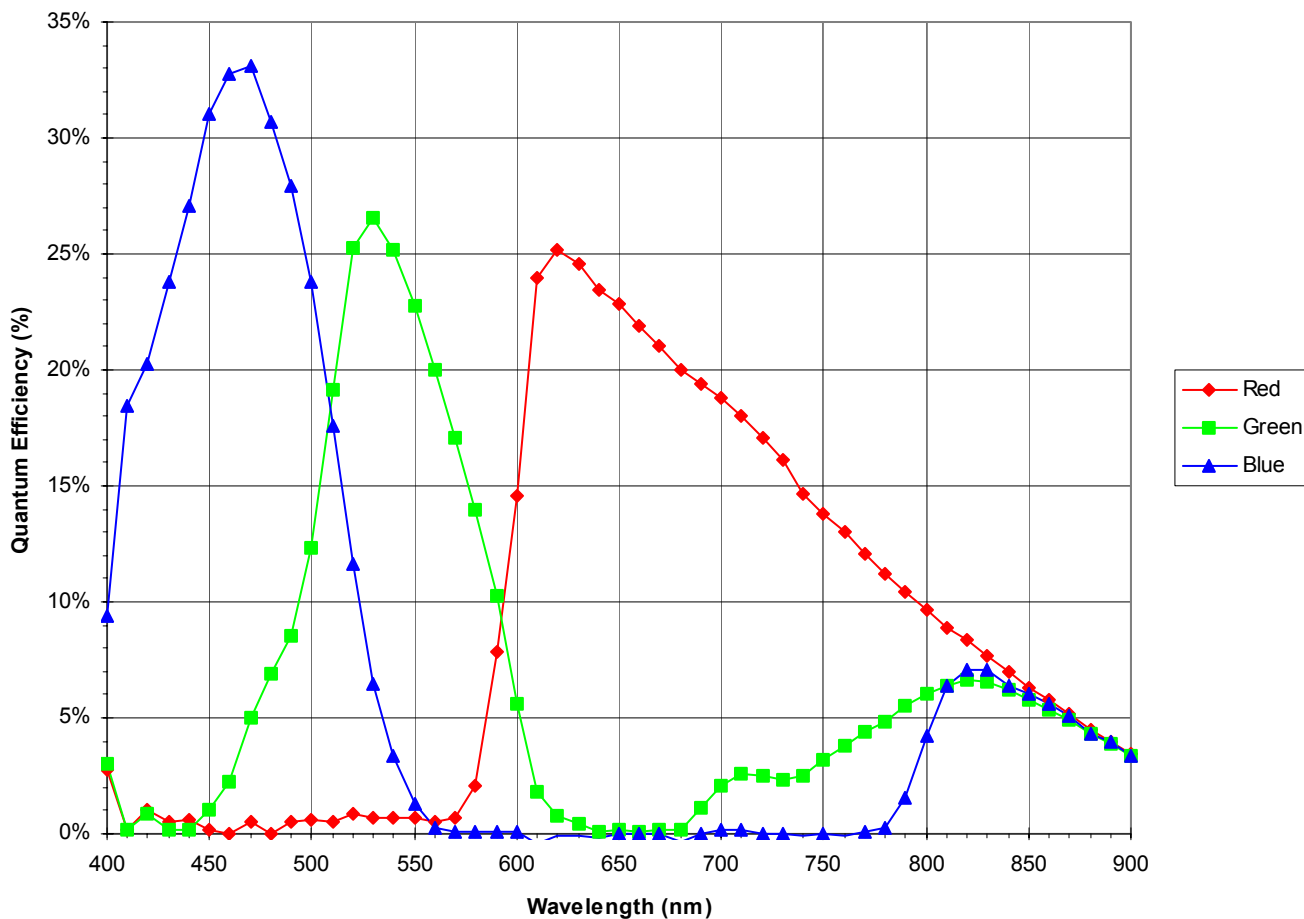

Figure 17 Nominal KAI 0330DCM Spectral Response
2. Refer to typical values from Figure 17 Nominal KAI 0330DCM Spectral Response.